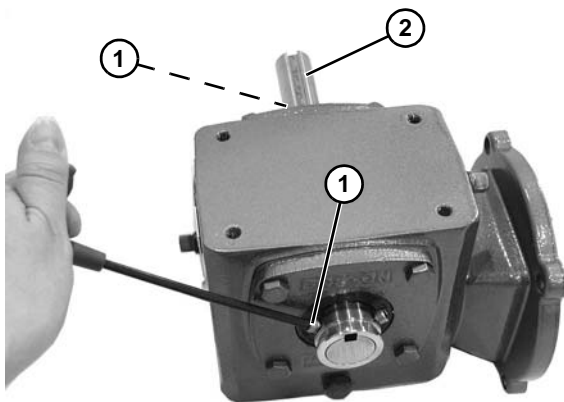

Figure 23
7. Use a hex key wrench to remove set screws on both bearings (**Figure 23, item 1**).
8. Remove gear reducer output shaft (**Figure 23, item 2**) and key.
9. Insert the new shaft (**Figure 23, item 2**) with key into new gear reducer.
10. Use a hex key wrench to tighten set screws on both bearings (**Figure 23, item 1**).